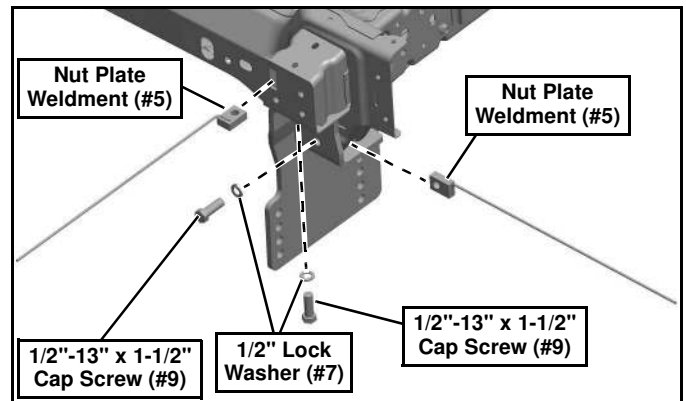

Figure 5
5. Insert a Nut Plate Weldment (#5) through the rectangular slot in the front of the truck frame and bend the wire as needed to align with the drilled hole (See Figure 5).
6. Fasten the front end of the Driver Side Mount Weldment (#2) to the truck. Use a $\frac{1}{2}$ " Lock Washer (#7) and a $\frac{1}{2}$ "-13 x 1- $\frac{1}{2}$ " Cap Screw (#9) to thread into the Nut Plate Weldment (#5) on the inside the frame (See Figure 5). Make sure the Nut Plate Weldment (#5) rests flat in the frame rail and does not get caught on any weld nuts located inside. Remove any excess wire sticking out of the frame because a tab in the bumper will need to stick back into this slot during re-assembly.
7. Fasten the lower hole to the front cross member. Use a Nut Plate Weldment (#5), a $\frac{1}{2}$ " Lock Washer (#7) and a $\frac{1}{2}$ "-13 x 1- $\frac{1}{2}$ " Cap Screw (#9) (See Figure 5). Remove any excess handle sticking out of the frame.